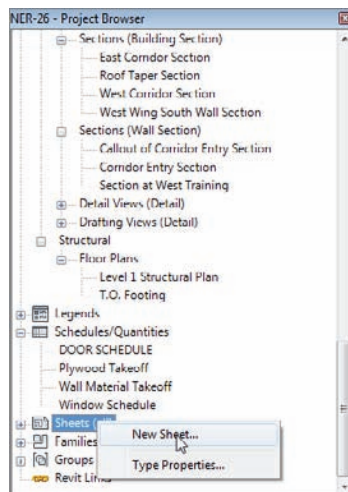

FIGURE 14.1 Selecting a new sheet
1. In the Project Browser, scroll down until you see a category called Sheets, as shown in Figure 14.1.
2. Right-click Sheets, and select New Sheet (see Figure 14.1).